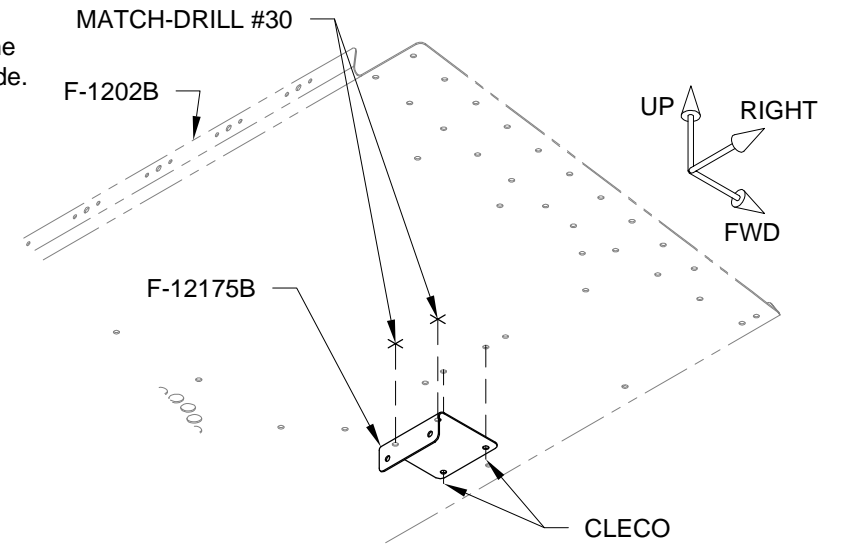

FIGURE 3: MATCH DRILL ANGLE TO PANEL BASE
Step 4: Cleco the F-12175B Angle to the underside of the F-1202B Panel Base through the holes shown in Figure 3.
Step 5: Match-Drill #30 the F-1202B Panel Base per the call-out in Figure 3 using the F-12175B Angle as a guide.